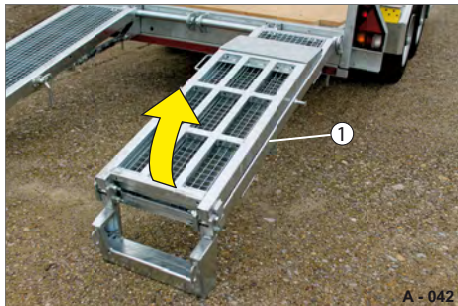

Fig. 44 Raising the drive-up ramp, two-piece
- ▶ Press the ramp (Fig. 44/1) upwards into the vertical position.